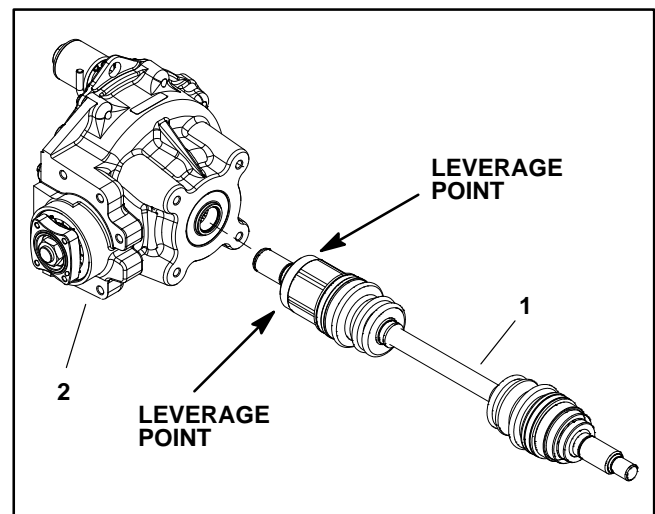

Figure 47
B. Use two small pry bars (180° apart) to carefully leverage the CV axle out of the differential. Use even pressure on both pry bars (Fig. 47).